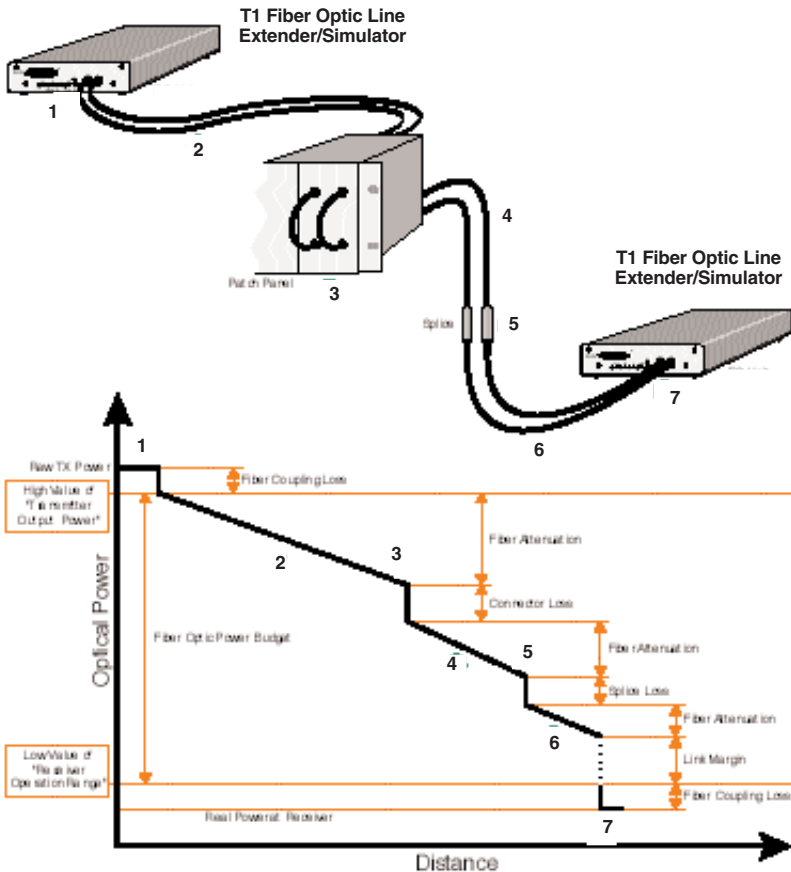

Figure A-1. Attenuation diagram.
Figure A-1 shows the various elements of the fiber optic link that decrease light intensity. Depending on the real installation, you must subtract a series of attenuation (att.) values from the raw optic output level of the fiber optic transmitter. The remainder of the originally transmitted light at the receiver must be at least as high as the minimum receiver sensitivity. Generally, you should project a link margin of at least 3 dB to allow aging and fiber repairs.
- (total system att.)=sum of all discrete attenuations (as shown in **Figure A-1**). This value is the attenuation of the link due to the link components.
Example values for calculations below (See Figure A-1):